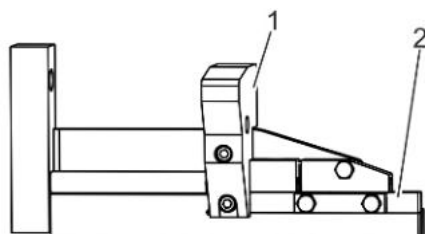

Fig. 27: Electrode carrier Slide
3. Check wire guide (Fig. 27/2) and the contact bridge (Fig. 27/1) for wear (visual inspection); if necessary, have them replaced by a specialist.
4. Check all screw connections (Fig. 27) for tightness using an open-end wrench or ring wrench and an Allen key and tighten if necessary.